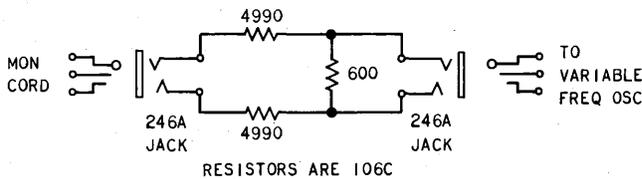

Fig. 1 — Jack Circuit
- (c) Disconnect LD cord and connect oscillator to MON cord through circuit for Fig. 1. The OSC IN and MON TEST jacks may be used if they are available. Set switch **CHAN SEL** to 1. (Relay CH1 operates.) Record to nearest 0.1 db the reading on the transmission measuring set.
- (b) Connect oscillator to MON cord through circuit of Fig. 1 or use 906 OSC IN and MON TEST jacks. Connect a terminal test cord to the 906 DEMOD INPUT MEAS jack. Operate key SUPV-DATA to DATA and block operated key DATA READ.